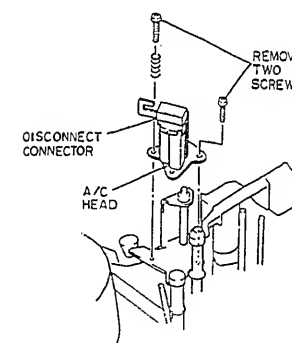

Fig. 2-57
1. Disconnect connector CN402. (See Fig. 2-57)
2. Remove two (2) screws holding the A/C head.